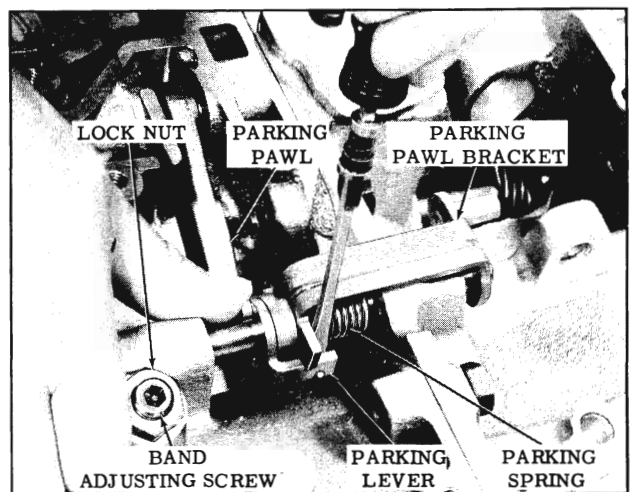

Fig. 3-228 Parking Pawl Spring
15. Loosen band adjusting screw lock nut, and remove screw and nut. (Fig. 3-228)
18. Unhook parking pawl spring from parking lever. (Fig. 3-228)